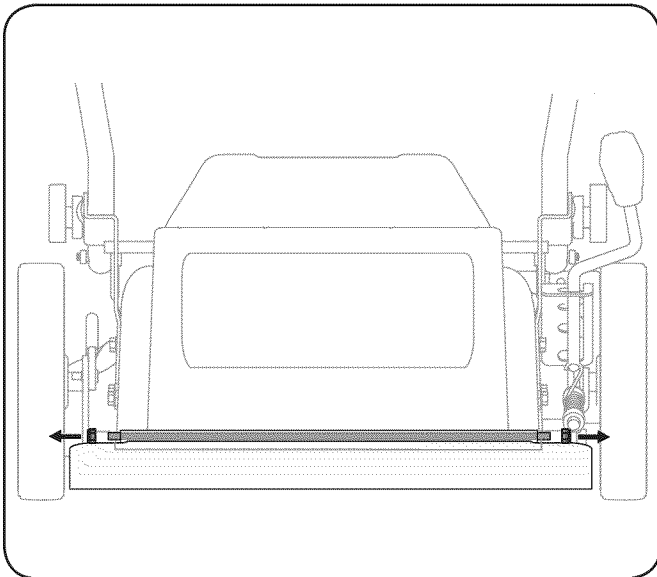

Figure 6-3
1. Using a 10mm wrench, hold one lock nut in place while the opposite lock nut is loosened and removed. See Fig. 6-3.